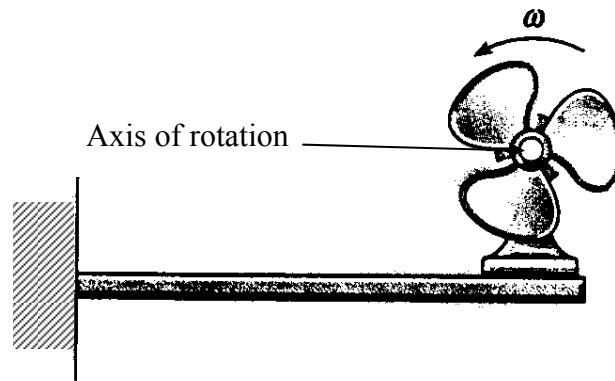

Figure 3
3. The electric motor turns an eccentric flywheel which is equivalent to an unbalanced 0.25 –lb weight located 10 in from the axis of rotation (see Figure 3). The total weight of the motor and the flywheel (together) is 150 lb. Neglect the mass of the beam. If the static deflection of the beam is 1 in due to the weight of the motor and the flywheel determine: